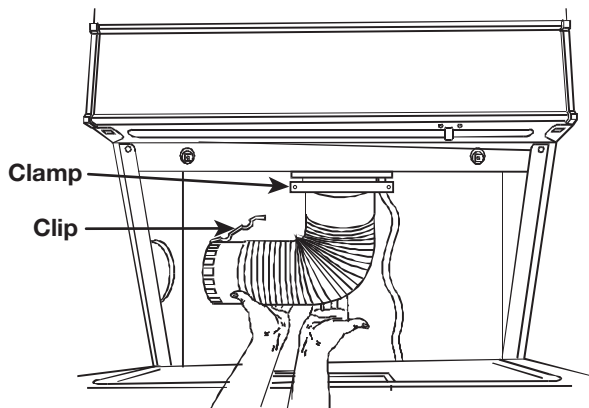

Figure 4
5. Install new flex pipe to the exhaust elbow. Secure side vent pipe to the unit using clamp. Secure clip on the end of the vent pipe. From the front of the machine, reach through to grab flex pipe. Bend toward panel exhaust hole opening and insert flex pipe end with clip. See Figure 4.